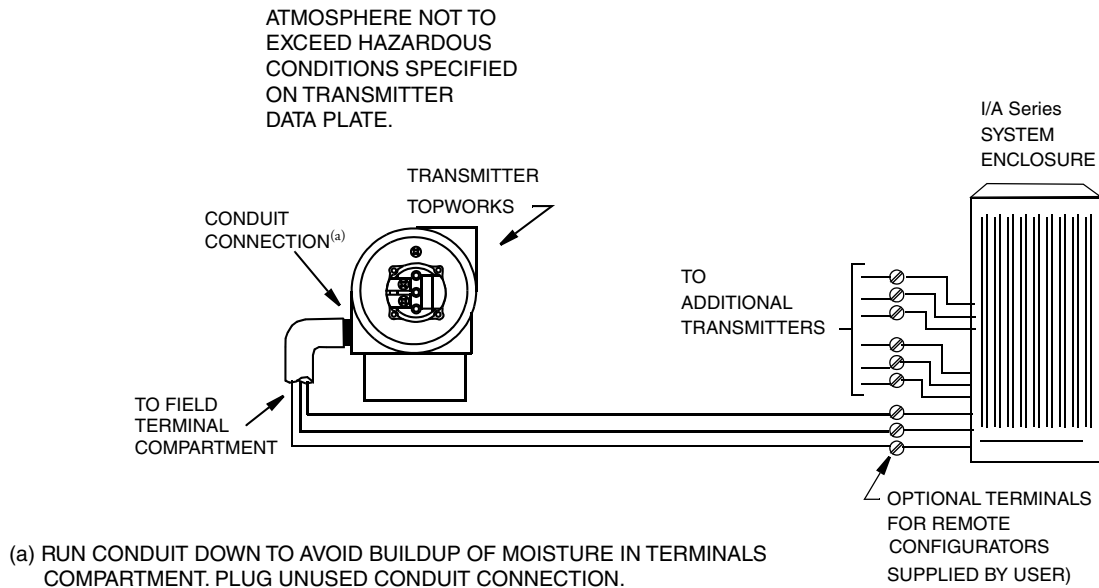

Figure 23. Typical Transmitter Wiring to an I/A Series System
2. Run signal wires (0.50 mm² or 20 AWG, typical) through one of the transmitter conduit connections as shown in Figure 23. Use twisted pair to protect the digital output and/or remote communications from electrical noise. Screened (shielded) cable may be required in some locations.